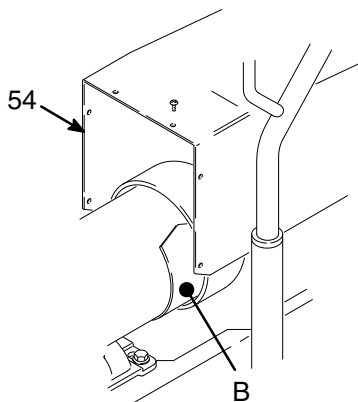

Fig. 9 7714A
2. Remove motor shield (54). Remove inspection covers (B) and gaskets on each side of motor. See Fig. 9.